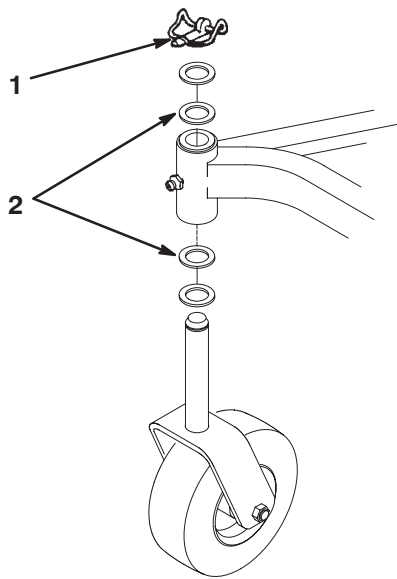

Figure 23
4. Insert a pin punch into the top or bottom of the mounting tube and drive the bushing out of the tube (Fig. 23). Also drive the other bushing out of the tube. Clean the inside of the mounting tube to remove any dirt.